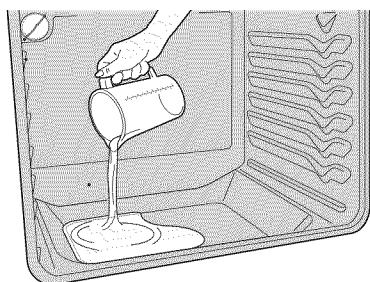

Figure 38: Pour water onto the oven bottom
3. Pour 8 oz (235 ml) of distilled or filtered water onto the oven bottom (Figure 38). Close the oven door.